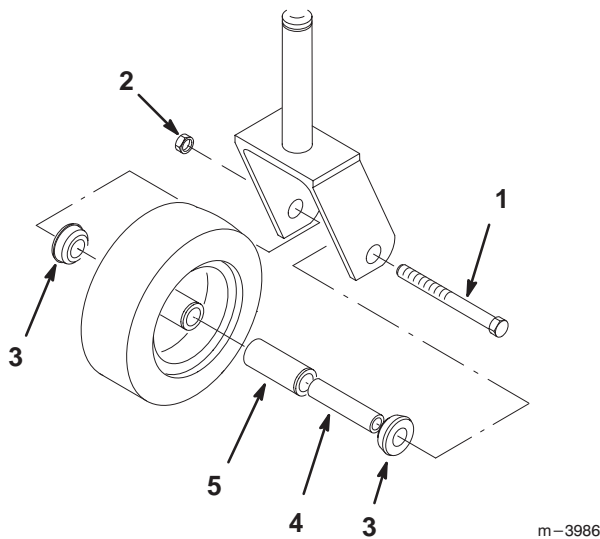

Figure 30
1. Remove the locknut and wheel bolt holding the castor wheel to the castor fork (Fig. 30).
2. Remove one bushing, then pull the spanner bushing and roller bearing out of the wheel hub (Fig. 30).
3. Remove the other bushing from the wheel hub and clean any grease and dirt from the wheel hub (Fig. 30).
4. Inspect the roller bearing, bushings, spanner bushing and inside of the wheel hub for wear. Replace any defective or worn parts (Fig. 30).
5. To assemble, place one (1) bushing into the wheel hub. Grease the roller bearing and spanner bushing and slide them into the wheel hub. Place the second bushing into the wheel hub (Fig. 30).
6. Install the castor wheel into the castor fork and secure with the wheel bolt and locknut. Tighten the locknut until the spanner bushing bottoms against the inside of the castor forks (Fig. 30).